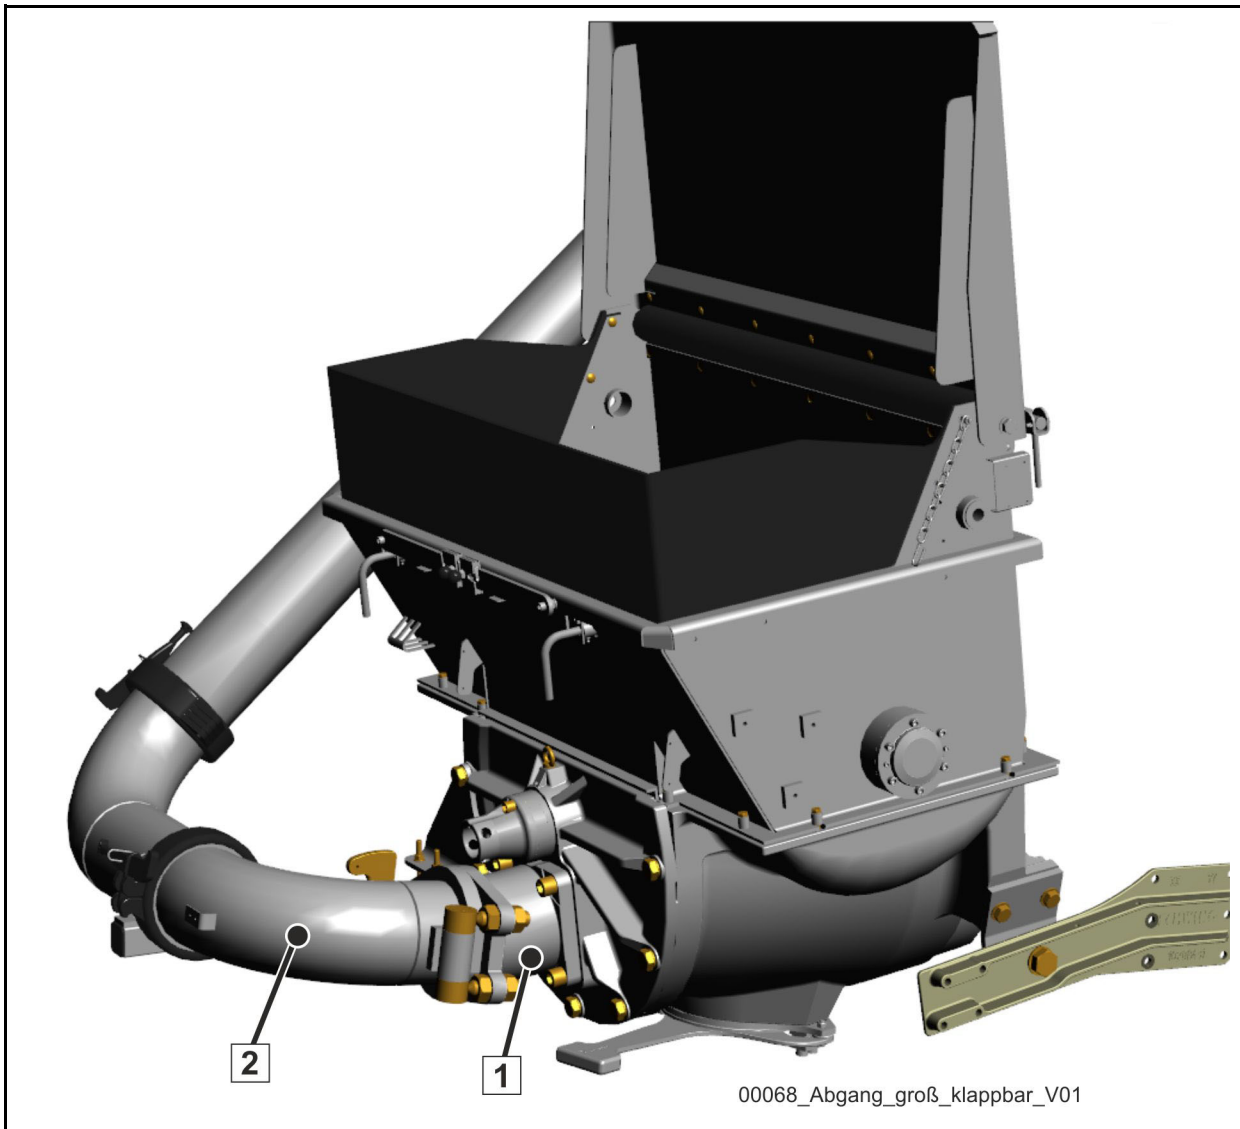

Fig. 175 Large outlet, foldable
The larger outlet 180/180/150 also has a 14-degree elbow mounted on the rock valve, see (1) (Fig. 175).